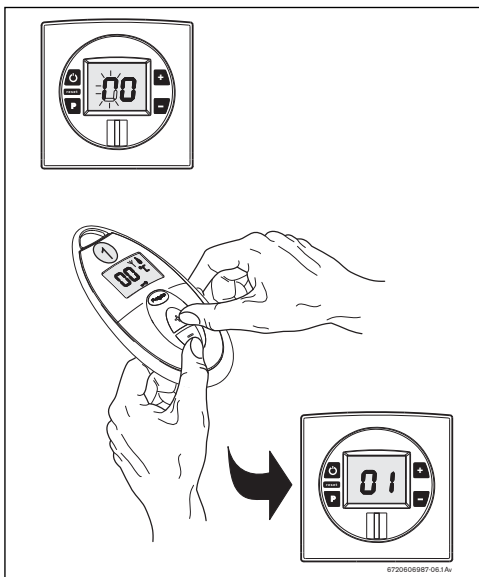

Fig. 12 Remote control activation
- Point the remote control at the equipment and simultaneously press the buttons  and  on the remote control (Fig. 12).